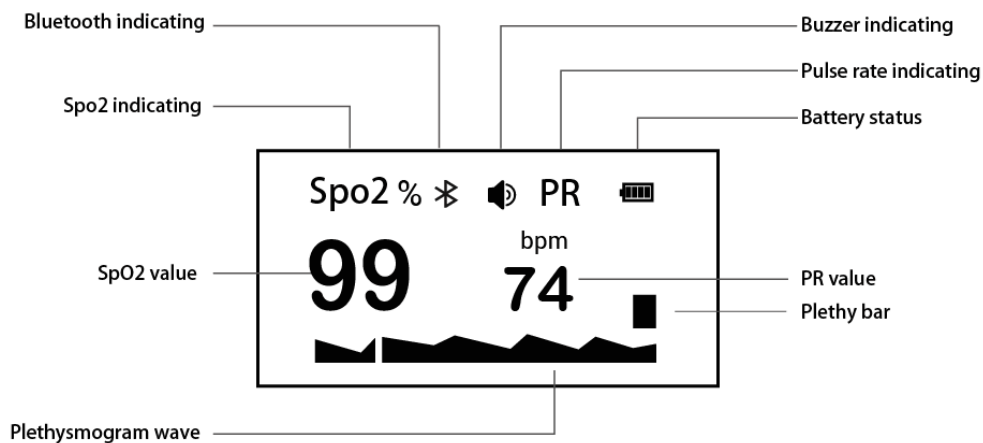
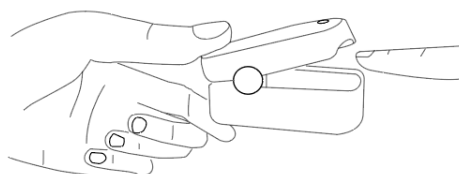

Figure 1
Figure 4
3. Press Clip's press sign in the figure 1 and open the clip. Let the testee's finger put into the rubber cushions of the clip, make sure the finger is in the right position as shown in **Figure 4**, and then clip the finger.